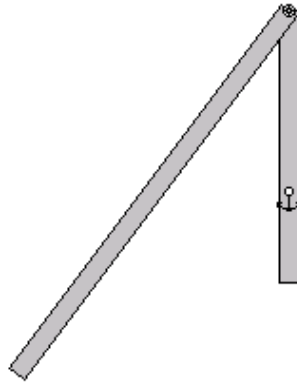

Figure 3
6. Join the two points to get a connection similar to Figure 3.